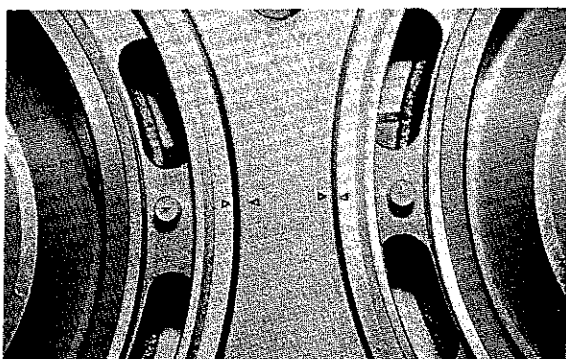

Fig. 92 Assembly marks of sleeve setting
- b. When the push rod has been inserted, correctly locate the position of the cylinder sleeve, setting it to the countermark (refer to Figure 92).